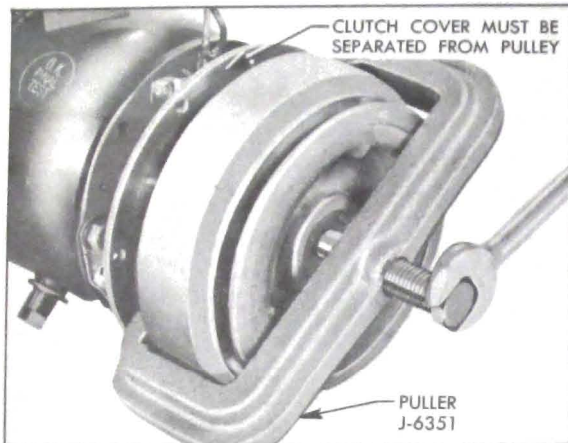

Figure 11-49—Removing Pulley
2. Remove the six screws and lock washers used to mount the clutch cover ring to the pulley casting. NOTE: It is absolutely necessary that this be done at this time to avoid damage to the internal parts of the clutch. It is also necessary to remove the three coil retaining screws to allow the clutch cover plate to move back. See figure 11-49.